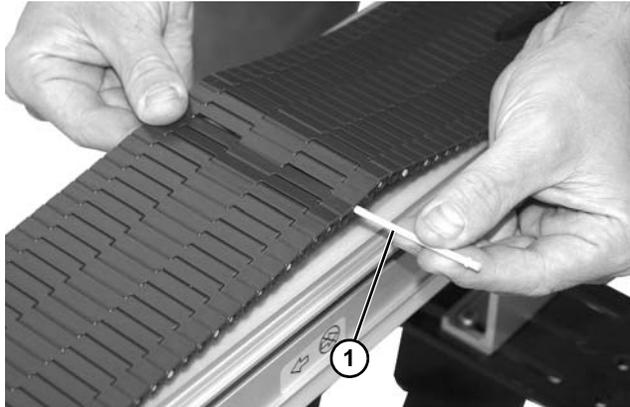

Figure 42
5. Splice the belt together by pushing the plastic rod (Figure 42, item 1) through the side hole on the rod retaining side of belt.